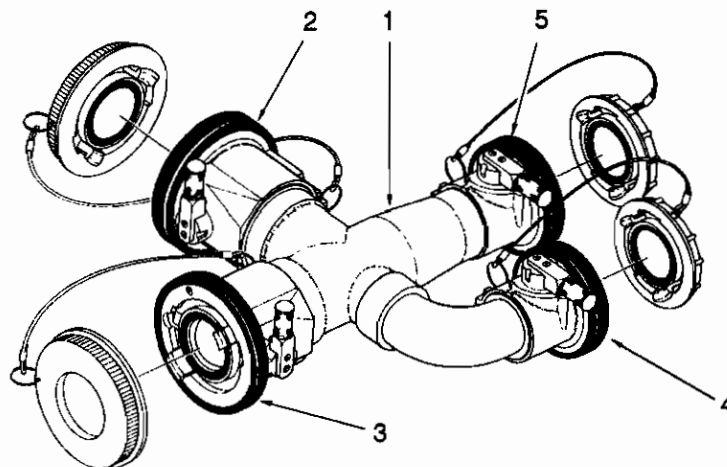

Figure 1-12. Recirculation Manifold
The recirculation manifold (1), figure 1-12, is connected to the three-inch outlet port of the liquid fuel filter-separator during system setup by a three-inch unisex coupling (2). A three-inch discharge hose is connected to the second three-inch coupling (3) to supply pumpage to the fuel discharge hoses, and D-1 and CCR nozzles. A two-inch recirculation hose connects from the fuel drum inlets to two-inch unisex coupling (4) for full flow recirculation or to two-inch unisex coupling (5) for reduced flow (5 gpm) recirculation.